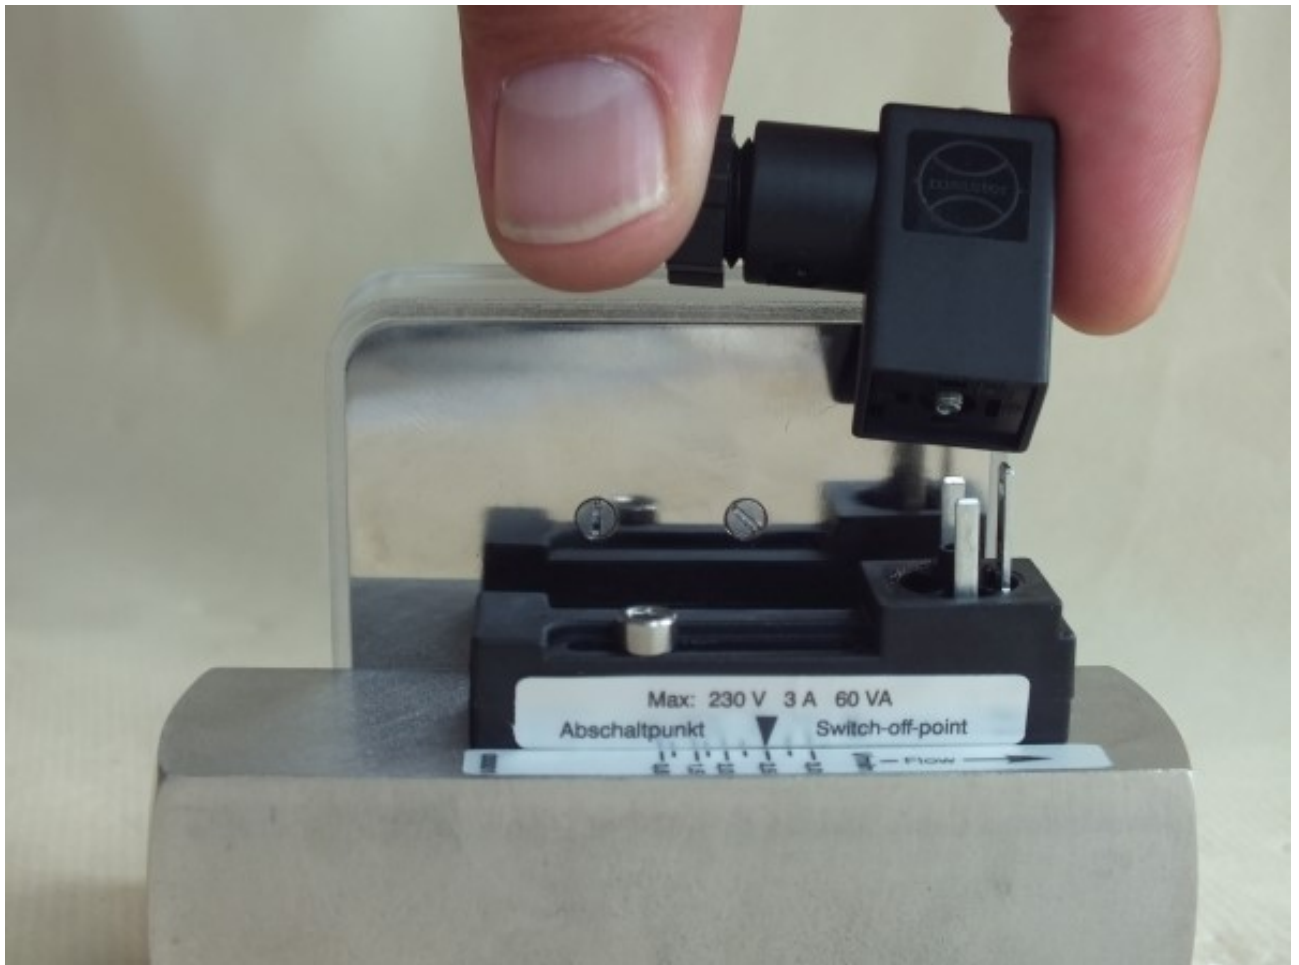

Fig. 68: Remove female socket
2. ➡ Remove the female socket and gasket (*Fig. 68*) by pulling upwards.